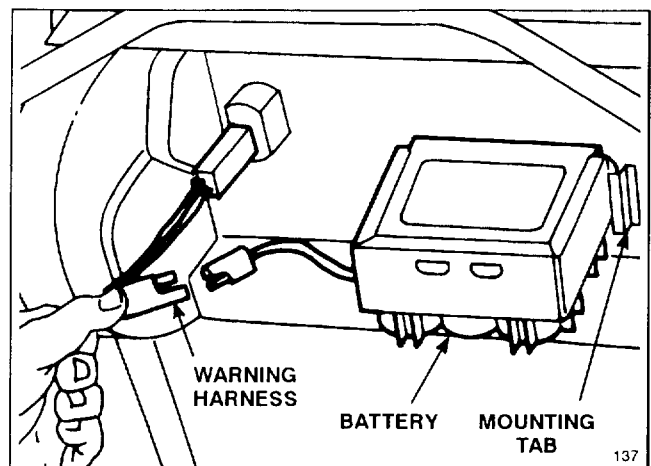

Figure 25
1. Stop engine and wait for all moving parts to stop. Disconnect wire harness from battery terminal (Fig. 25).